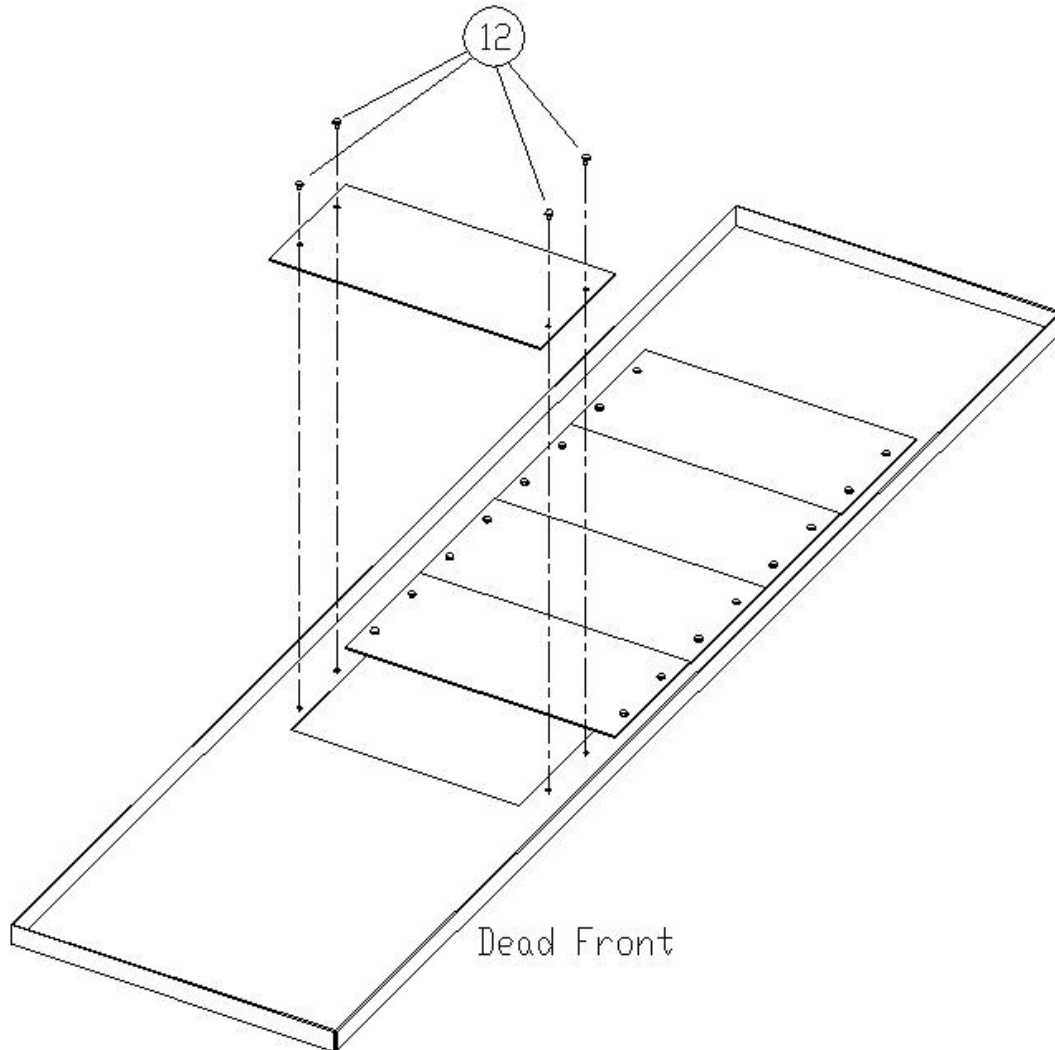

Figure 3. Removing the shield inserts from the shield for SF breaker installation in A-Series® II Panelboards.
10. Remove the four screws [12] of existing filler plate from dead front where SF breaker needs to be installed, as illustrated in Figure 3.